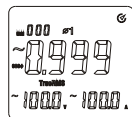

Figure 10-1
- 4) As shown in Figure 10-1, please press SELECT key to select the 1st phase location of φ 1 for load of three-phase four-wire system. It also can display power factor (cos(φ)), voltage (V) and current (A) for phase location φ 1.